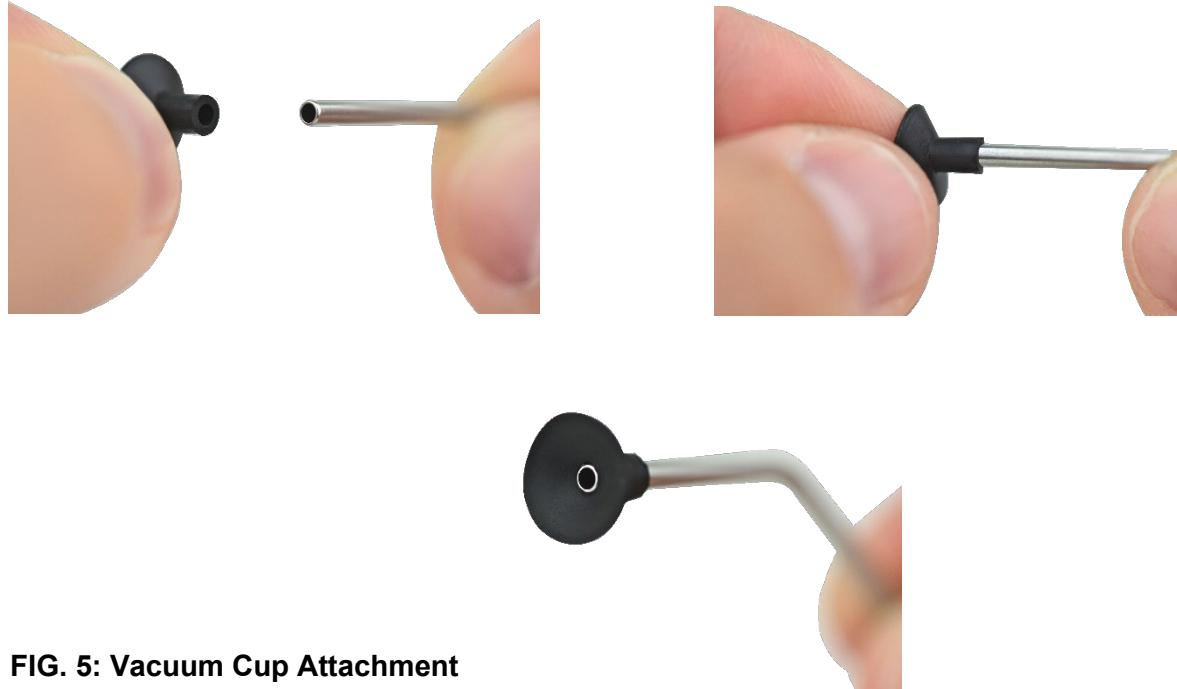

FIG. 5: Vacuum Cup Attachment
3.	<p>Gently push the stem of the vacuum cup onto the pickup tip. See FIG. 5.</p> <p>Ensure that the pickup tip does not protrude into the "cup" area of the vacuum cup, as this may result in damaging the component that is to be picked up.</p> <p>A successful setup will be confirmed by a tight fit that does not deform the surface of the vacuum cup.</p>